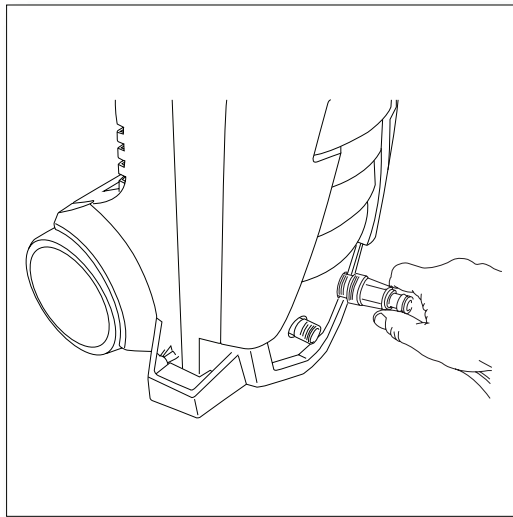
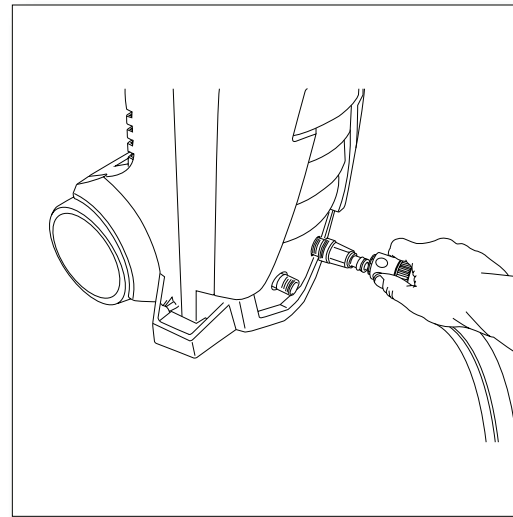

Fig. 15
Fig. 16
- First, remove the plastic shipping cover on the water inlet on the front of the power washer on the right side. Attach the clear quick connect filter to the power washer (Fig. 15) hand tight is fine. Slide the garden hose adapter collar onto the clear adapter (Fig. 16), it will “click” into place.